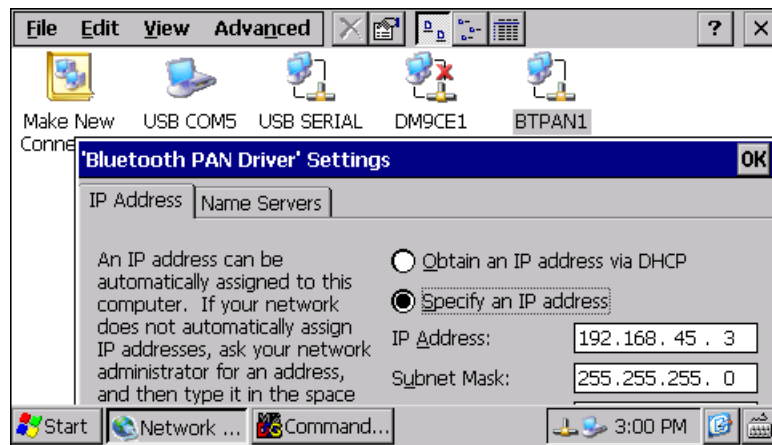

Figure 42
3. The Network and Dial-up Connections Control Panel applet contains an additional connectoid called “BTPAN1” that reflects the newly registered network connection. Use the Properties dialog box for this connectoid to set IP configuration parameters. Refer to section 4.1.6, “Network and Dial-up Connections” for a description of this Control Panel applet and instructions on how to set up IP configuration parameters. Figure 42 illustrates the Properties for the Bluetooth connectoid and some sample IP parameters. This example shows a connection with a static IP address.